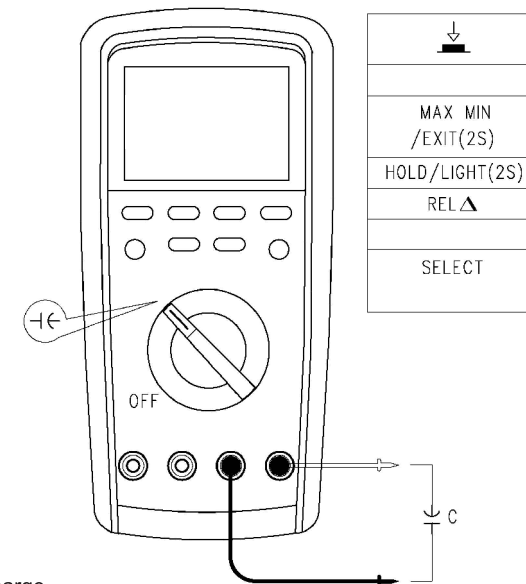

Figure 7
5. Measuring of capacitance (see Figure 7)